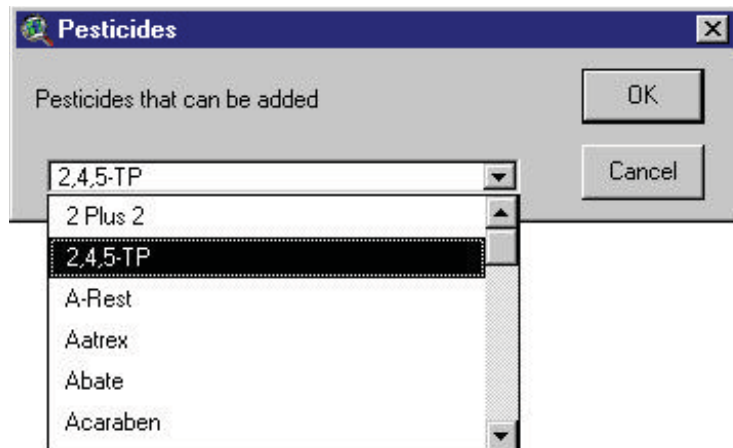

Figure 12.76
- b. A prompt box with a drop-down list is displayed (Figure 12.76). All pesticides in the SWAT pesticide database (see Section 14) are listed.